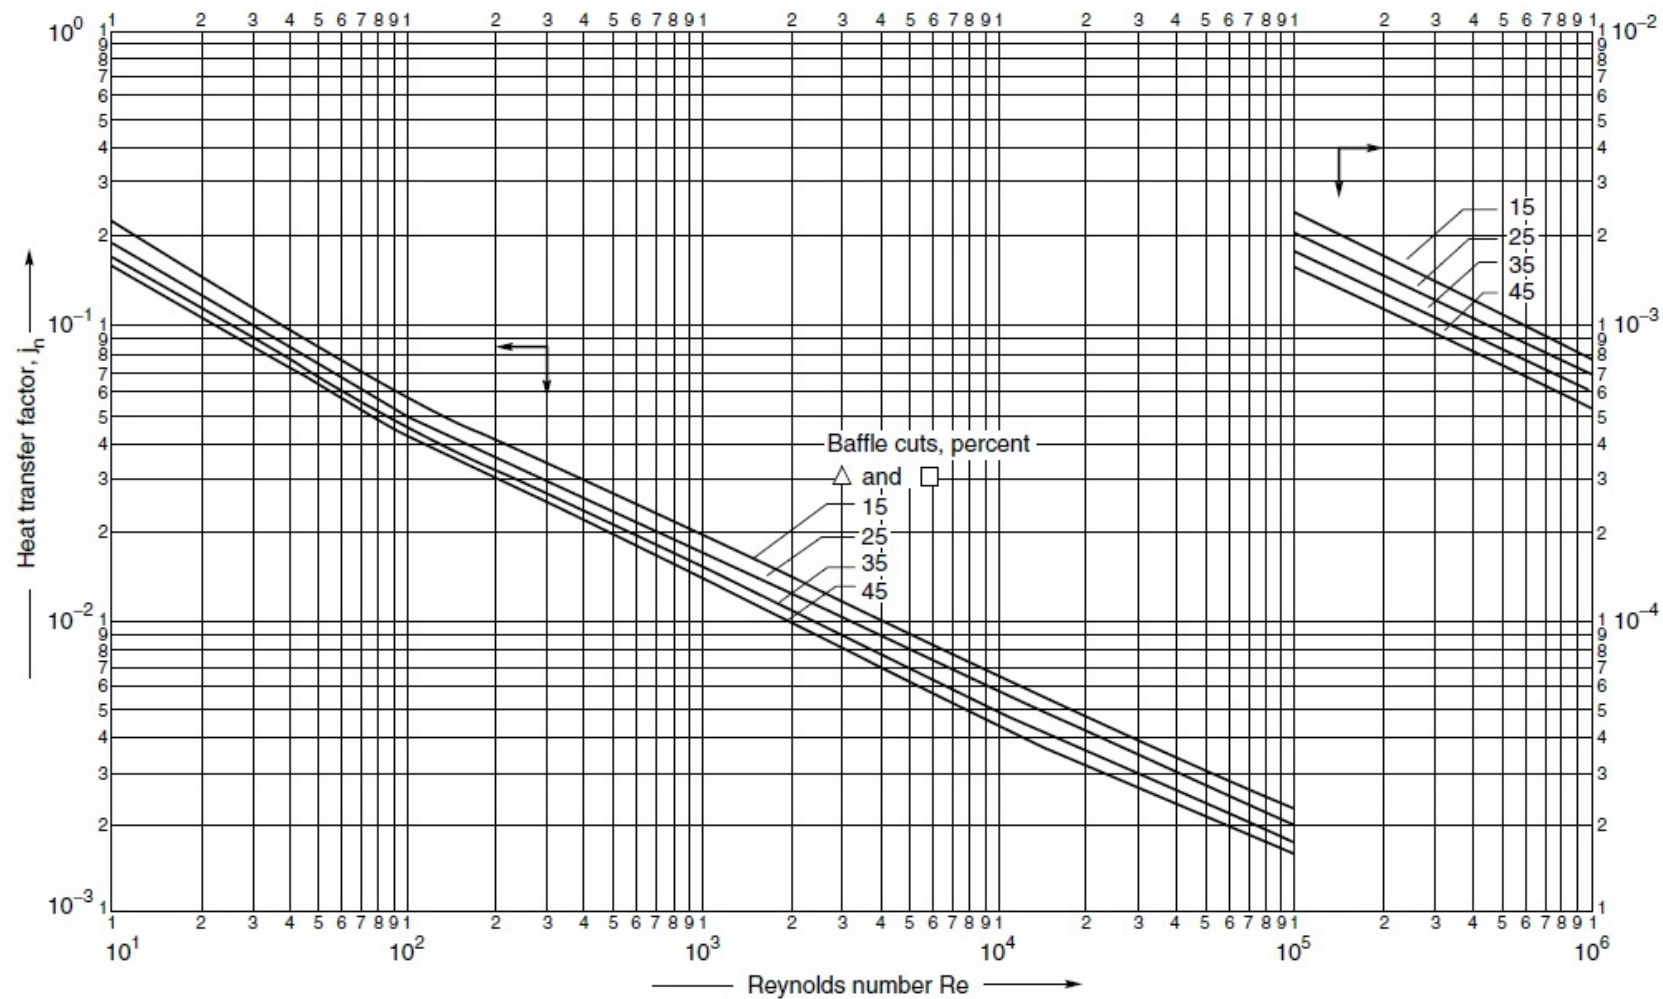

Fig. 9: Shell-side heat-transfer factors, segmental baffles
• Choose 25 per cent baffle cut, from Fig. 9
- For the calculated Reynolds number, the read value of j_h from Fig. 9 for 25 per cent baffle cut and the tube arrangement, we can now calculate the shell-side heat transfer coefficient h_s from: